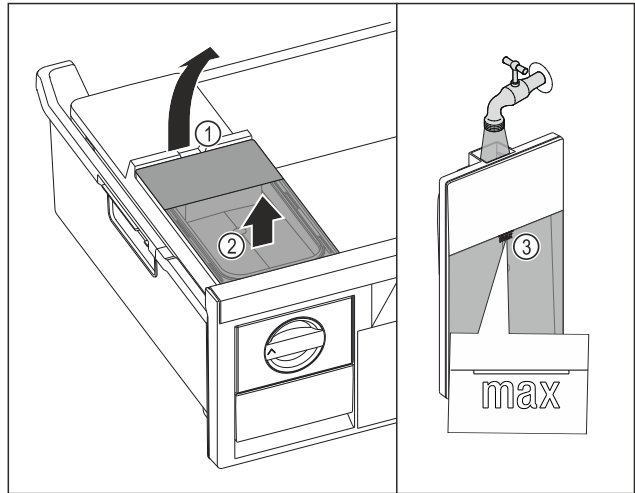

Fig. 100
- ▶ Lift the water tank at the recess Fig. 100 (1).
- ▶ Remove the water tank by lifting it upwards. Fig. 100 (2)
- ▶ Fill the water tank with drinking water up to the mark Fig. 100 (3).